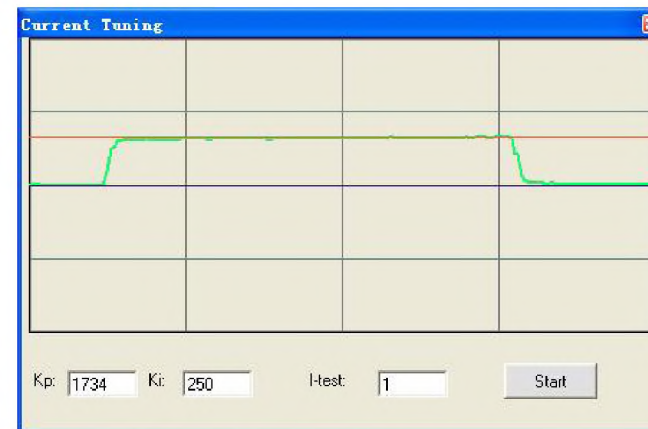
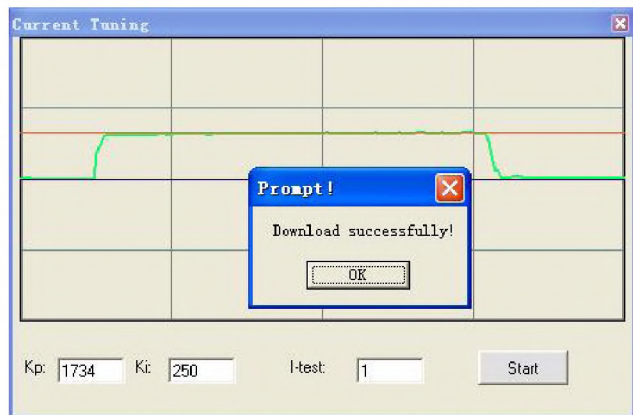

Figure 22: Current Tuning window
Figure 24: Finish tuning and save setting to the driver
**Start** button: The user can start a Step Response test by clicking this button. Start/Restart a Step Response test to get an optimum response like Figure 22, and remember to save the settings to the driver when finish tuning. See Figure 24.